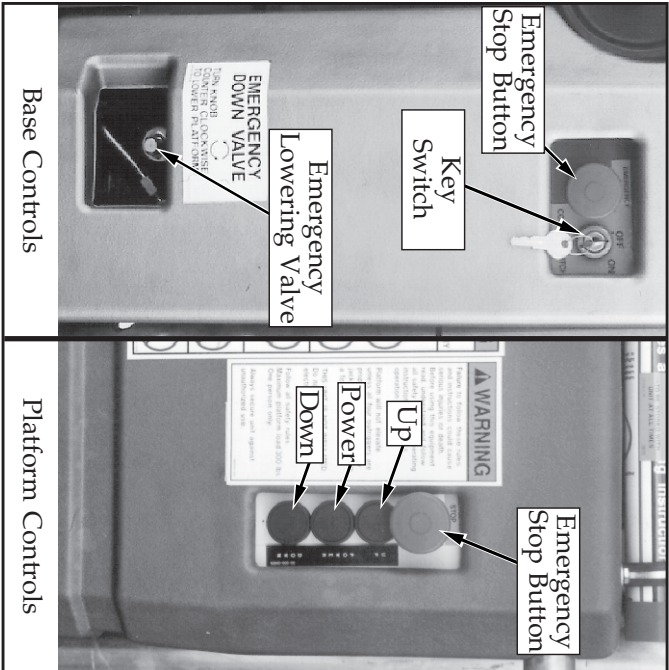

Figure 2: Controls
Ask a person on the ground to open the Emergency Lowering Valve to lower the platform. This valve is located through a cutout in the power unit cover on the left side of the mast (Figure 2).
3. Turn Key to **ON**, Key Switch is located on the left side of the mast (Figure 2).
4. Pull out on Lower Emergency Stop Button, located on the left side of the mast (Figure 2), to turn switch ON. In the event of an emergency push the button in to cut power to all controls.
8. Pull out on Emergency Stop Button, located on platform control panel (Figure 2). In the event of an emergency push the button in to cut power to all controls.
9. Push both the middle and top buttons (POWER and UP), on the Control Box (Figure 2), at the same time to elevate the platform. Release the buttons to stop.